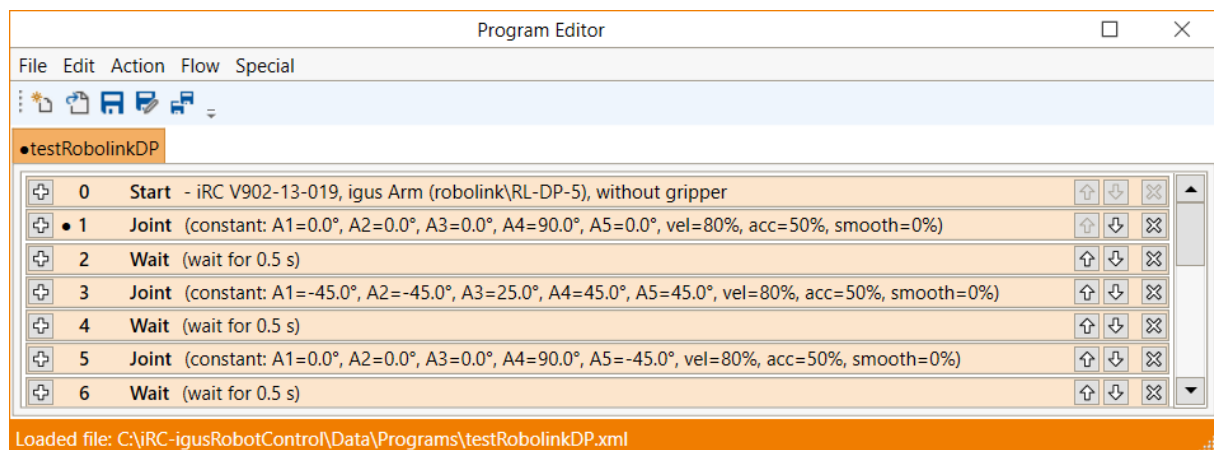

Figure 32: Program editor with a shord programm
To move a command, use the arrows on the right side of the command line. Alternatively, you can click "Down" or "Up" from the command context menu (see Fig. 32).
- Open the context menu by right-clicking on the command and click on "Touch Up!" (see Fig. 32).
To select a specific command as the starting point for execution, click on "Start Here" in the context menu (see Fig. 32).